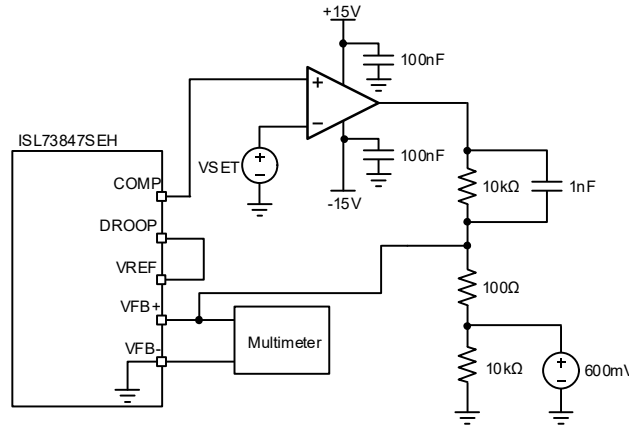

Figure 6. Closed-Loop Circuit
- This test is conducted in a closed loop circuit as shown in Figure 6 and includes the error amplifier offset.